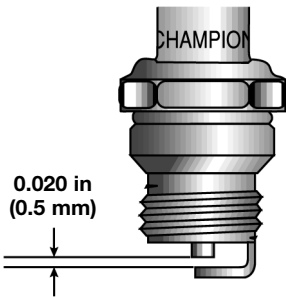

Fig. 36
3. Replace cracked, fouled or dirty spark plug. Set the air gap at **0.020 in. (0.5 mm.)** using a feeler gauge (Fig. 36).